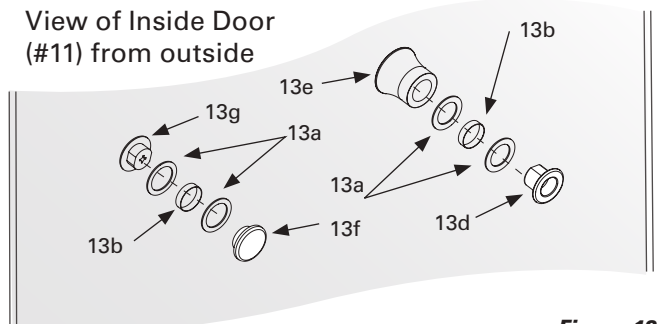

Figure 12
1. Locate the Knob and Recessed Finger Pull. Refer to **Figure 12** to help identify the parts.
1. Locate the End Cap and Recessed Finger Pull. Refer to **Figure 12** to help identify the parts.